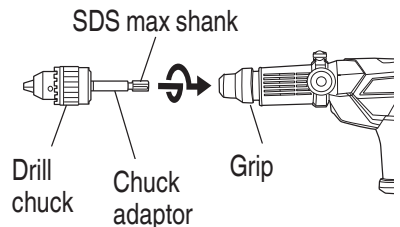

Fig. 17
- (2) Attaching chuck adapter to drill chuck (**Fig. 17**)
- (3) Drilling